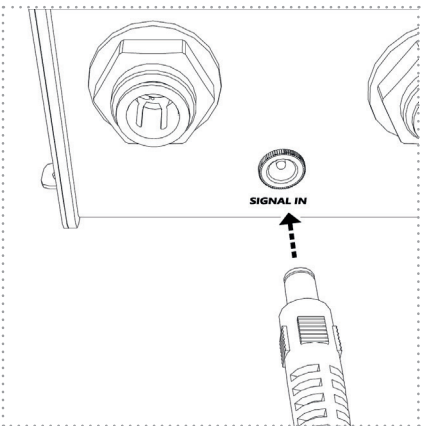

Figure 22
- Reinsert/turn on the fuse for the UV unit's circuit and check for the correct mains voltage at the test openings of the connection terminals (Figure 22).
In winter and at sub-zero temperatures, ensure that the water in the UV unit and in the entire water system does not freeze. If this cannot be guaranteed, open all water consumers/fittings and let the pump run until no more water comes out of the fittings. For safety, now remove the hose on the water inlet side to the UV unit so that any water residues can drain out (see Figure 22 or *4.3.4 Releasing Push-In Connectors (p.50)*). Place a towel or container under the UV unit for this purpose.